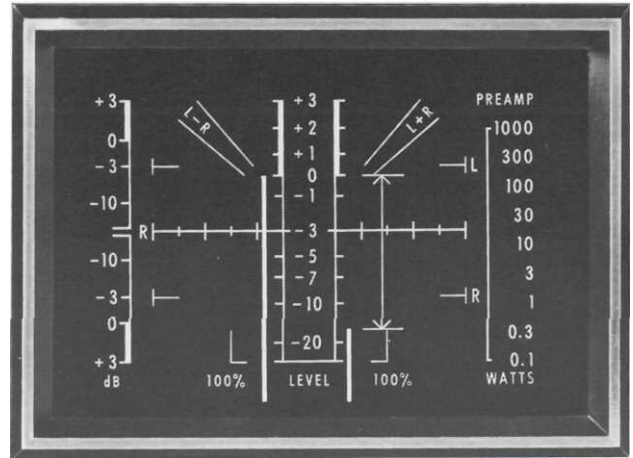

FIG. 32 CHANNEL SEPARATION (Approx 15dB)
4. You should obtain a display like that shown in Figure 32. The difference in height between left column and right column indicates left to right channel separation in dB. The POWER LEVEL switch may be advanced to